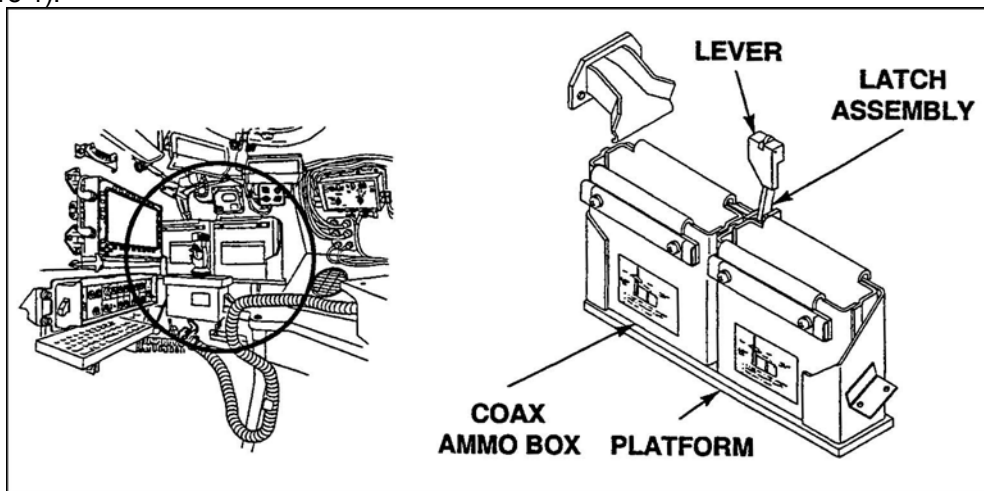

Figure 1. M240C coaxial ammo box.
1. Access the 7.62-mm coax ammunition chute. Remove any debris from the coaxial ammunition box (Figure 1).